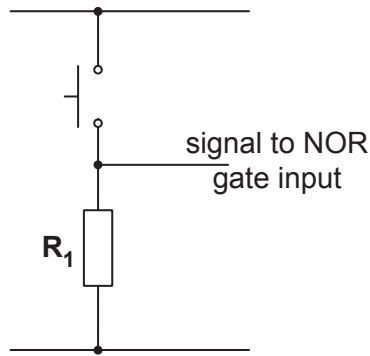

Fig. 12.4
- (iv) Fig. 12.4 shows a circuit diagram for a PTM switch that could be used to provide a logic signal to one of the inputs of the NOR gate IC.